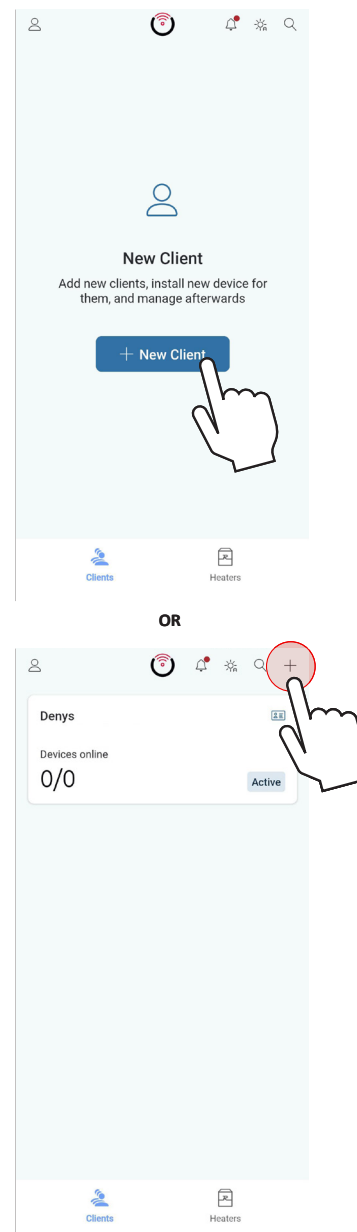

Figure 115. Add a New Client
3. Now, press [New Client] button or top-right [+] icon. See **Figure 115**.